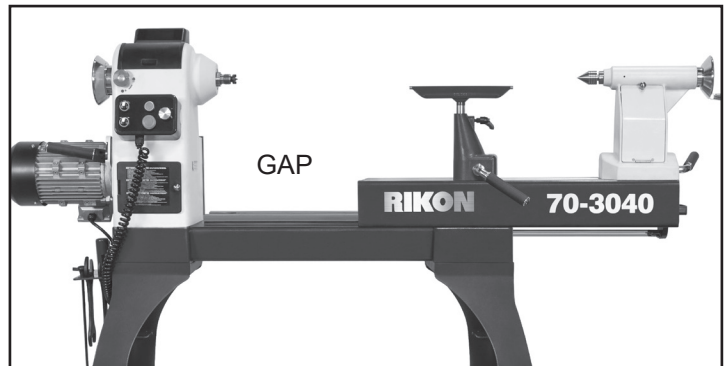
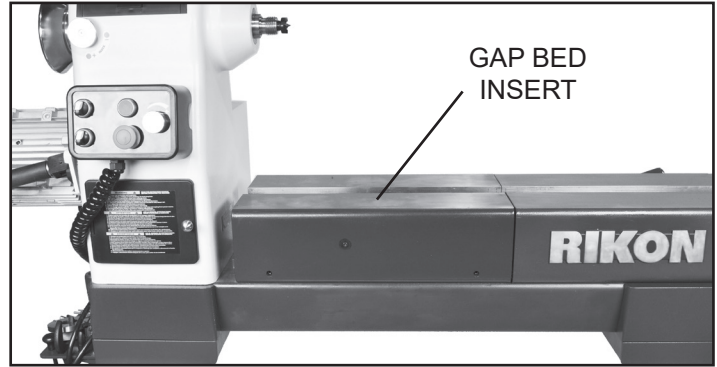

FIG. 22
FIG. 24
When the upper bed is slid away from the headstock, a 'GAP' in the bed occurs, revealing the lower bed. FIG. 22. For spindle turning, there are 2 options on how to use your tool rests when dealing with this gap.
**Option 2:** The 'Gap' on the lathe bed (FIG. 22) can be filled with RIKON's Gap Bed Insert accessory (FIG. 24). This short, duplication of the lathe's upper lathe bed installs over the exposed lower bed and continues the upper bed track at the same height as the sliding bed. This means that your tool rest base can be now positioned anywhere on the lathe for turning, sliding from end-to-end, between center-to-center. A second tool rest base is not needed.